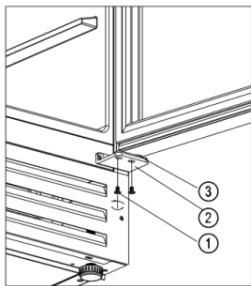

Figure 1
- Unscrew the two screws ① from the right lower hinge ② [Figure 1].
1. Hold the door ③, unscrew the four screws ② from the lower hinge ①, and remove the lower hinge ①. Slowly take out the door ③ from the top right hinge ⑦ from top to bottom. [Figure 1].